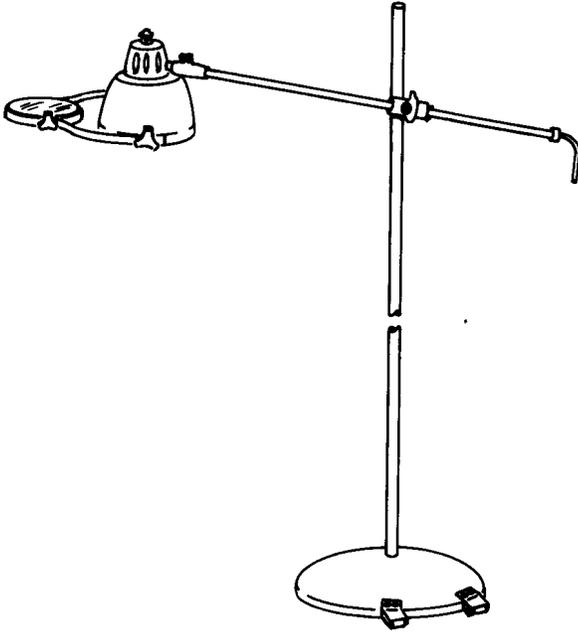

Fig. 7—KS-21808, L1, Magnifier Lamp Tool
2.11: **KS-21808, L1:** The KS-21808, L1, magnifier lamp tool (Fig. 7) is intended to provide supplementary illumination and magnification when wire wrapping, trouble shooting, and inspecting congested wiring. It consists of a lamp having an electrically and thermally insulated shade, 75-watt incandescent bulb for illumination and a 5-inch, 1.75X circular magnifier lens.